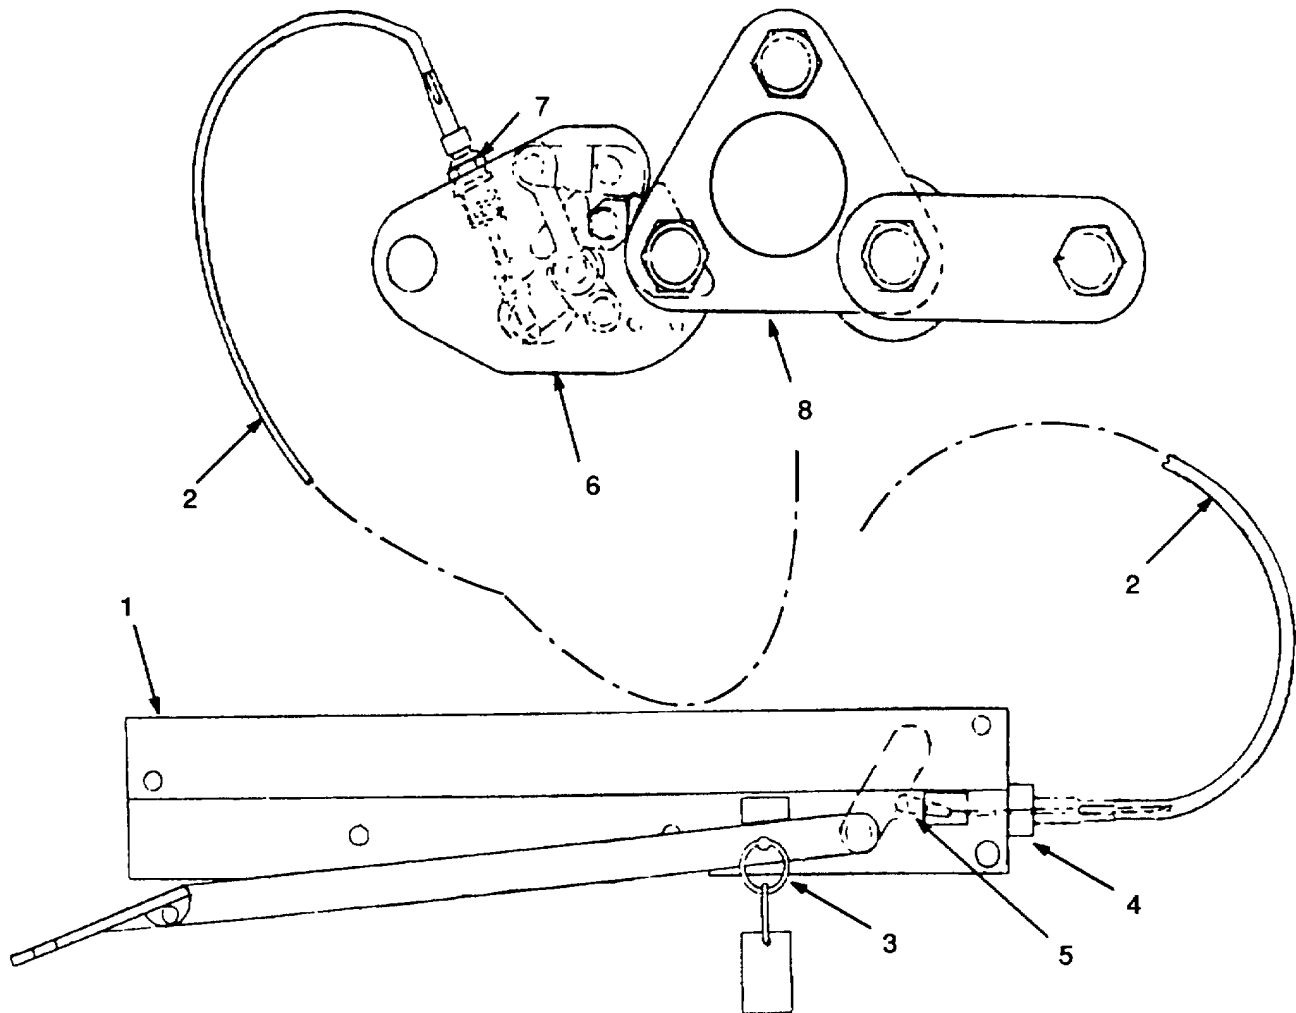

Figure 2-10. Coupling, Extraction Force Transfer Repair.
1. REPAIR ACTUATOR (1, FIGURE 2-10) AND CABLE (2) ASSEMBLIES
- a. Remove the locking pin (3) securing the housing cover to the actuator assembly and hinge the cover open.